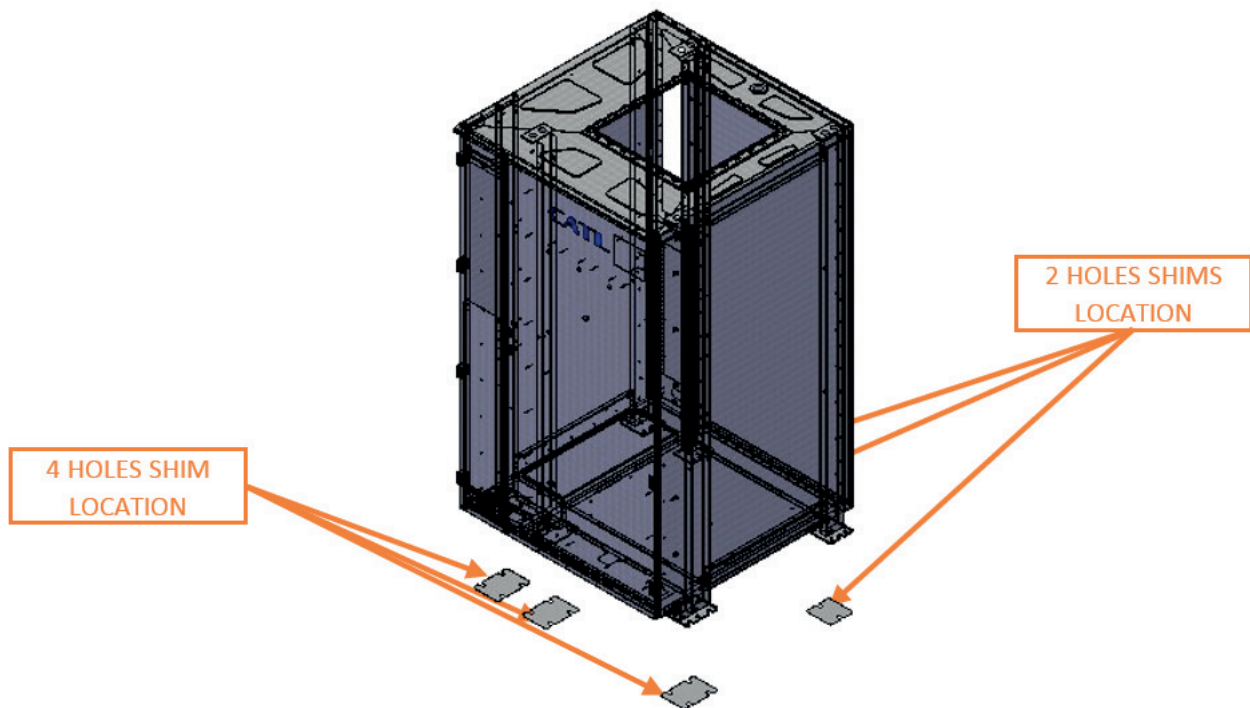

Figure 60. B-Cab XXL Shim Locations
9. Mount the B-Cab XXL: Locate and mount while simultaneously levelling the first B-Cab XXL using the provided shims. Maximum allowed deviations must be in the following range: 0.06 in for vertical directions, ± 0.25 in for horizontal direction (left to right), and ± 0.25 in for horizontal direction (front to back). Refer to Figure 60 for Shim locations